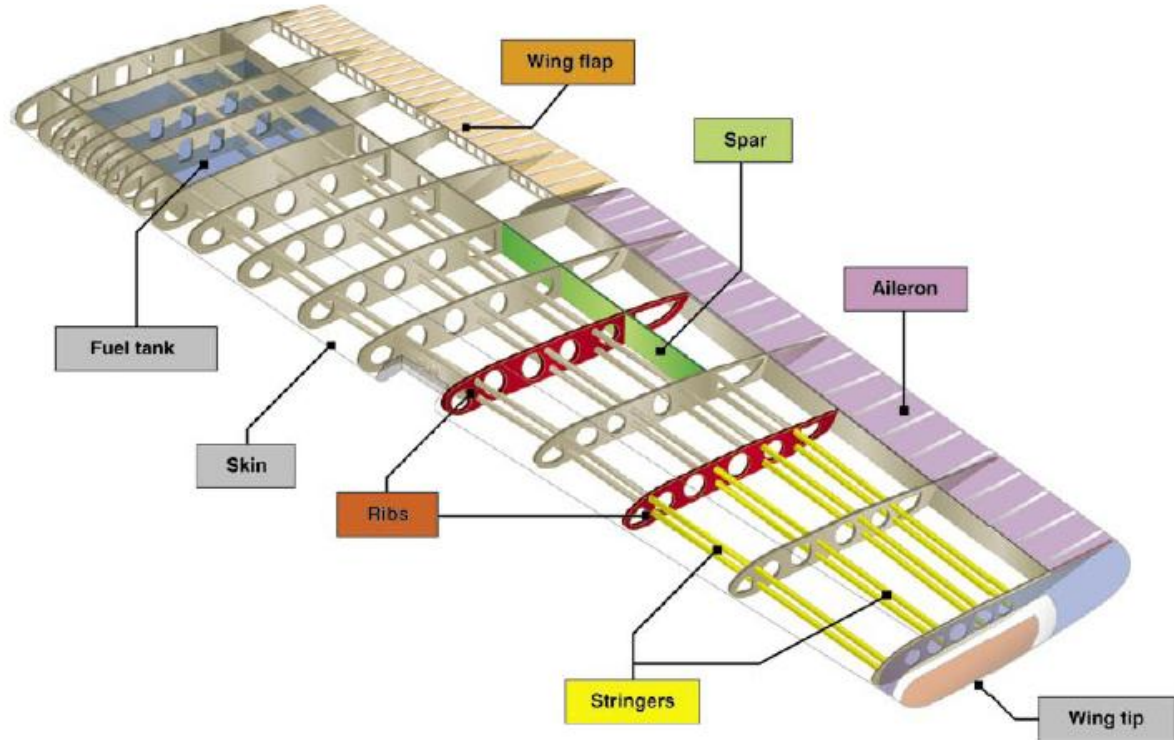

Figure 2-7. Wing components.
- The principal structural parts of the wing are spars, ribs, and stringers. [Figure 2-7]